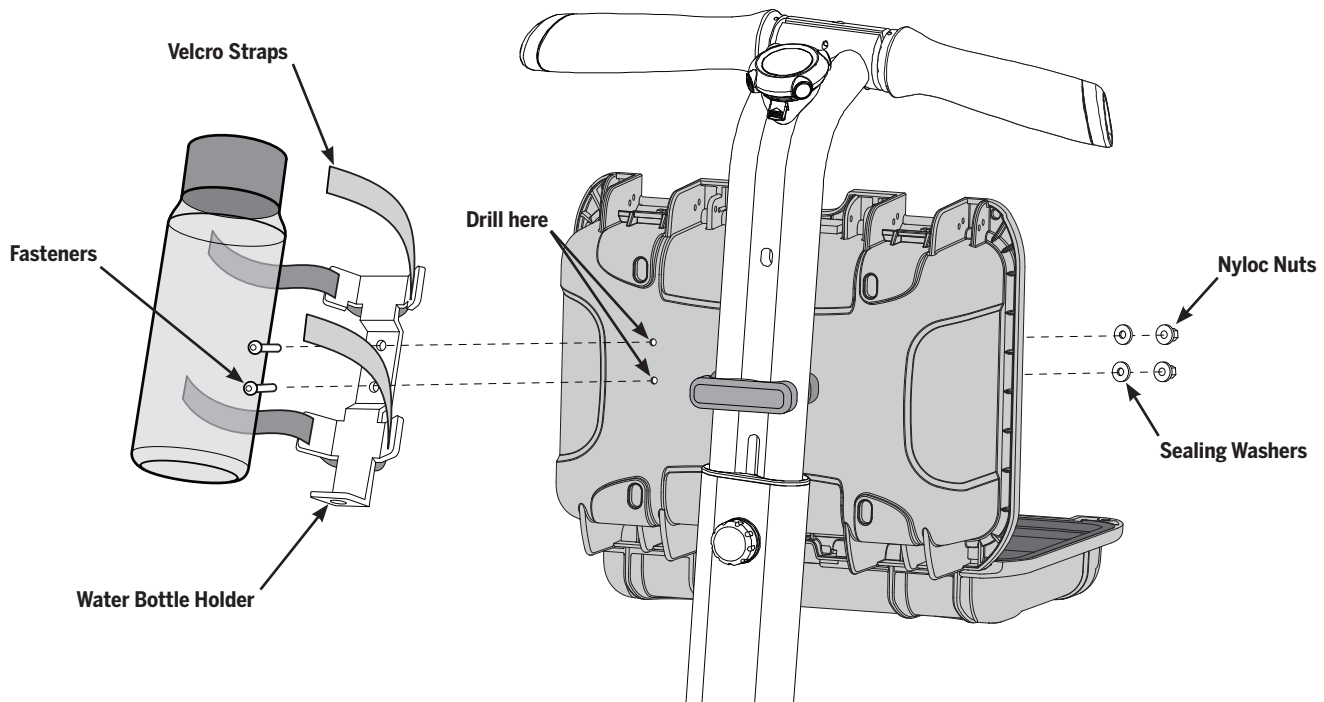

Figure 21. Install Universal Water Bottle Mount
3. Install the Water Bottle Holder to the Case using the two 16 mm Fasteners, two Sealing Washers, and two Nyloc Nuts as shown in **Figure 21**. Torque the fasteners to **6.0 N-m (4.4 ft-lbf)**.